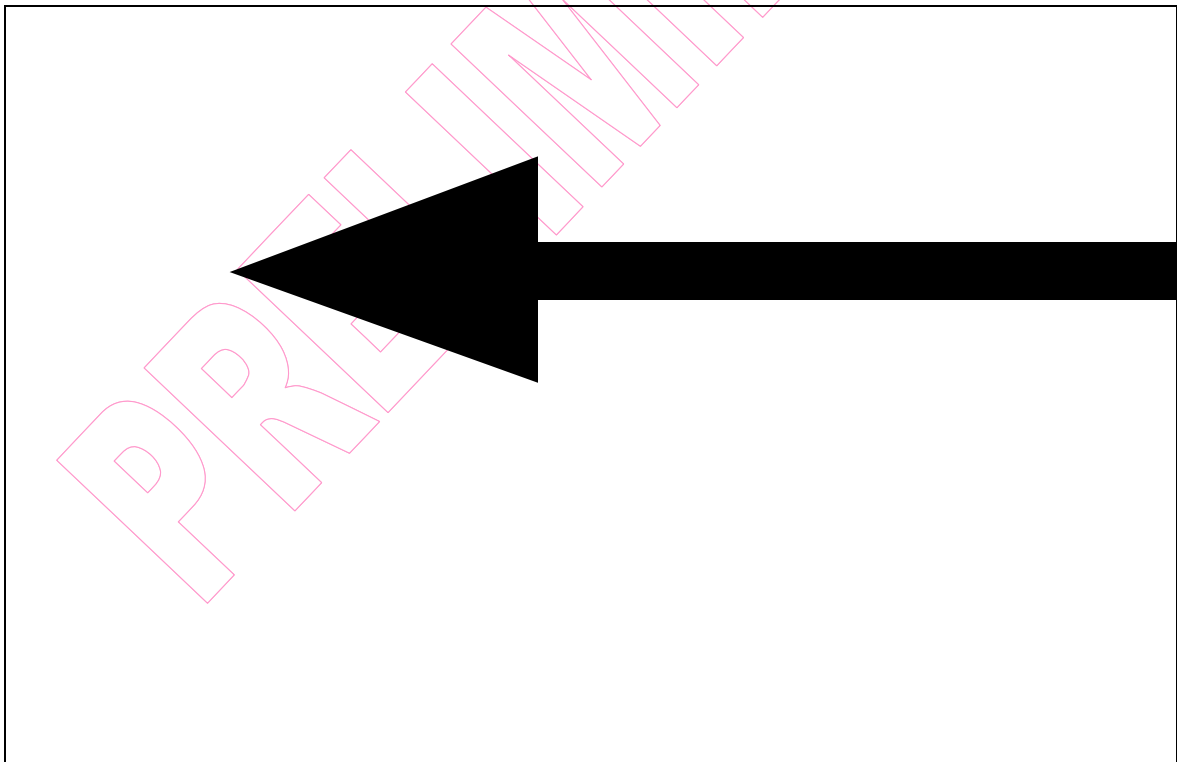

Fig. 6-10 SPI Block Diagram
- Timing is shown in Fig.6-10 and 6-11.